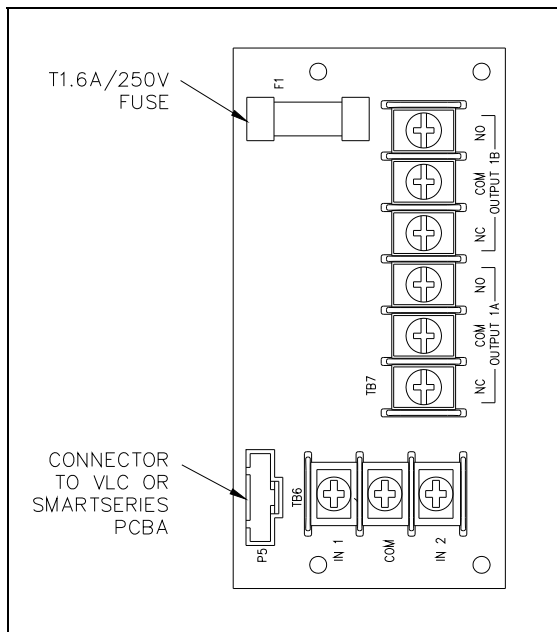
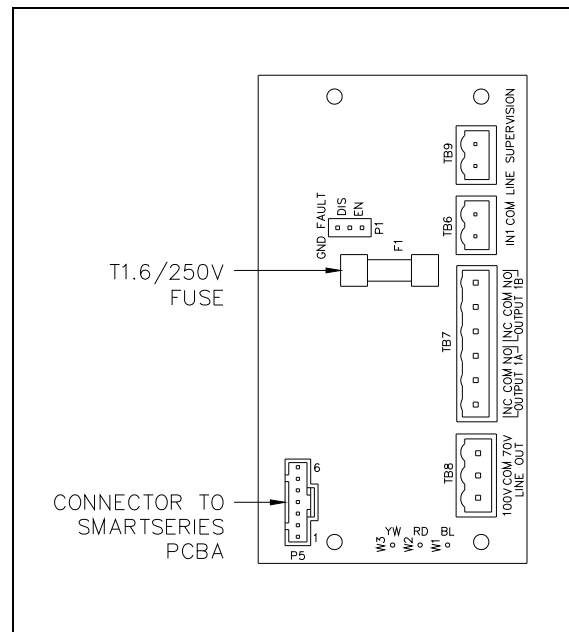

Figure 11. No. 69627 Series RTU PCBA
Figure 12. No. 69628 Series RTU & SmartSeries® 70V/100V Speaker Line Monitor PCBA
The No. 69627 RTU (Remote Terminal Unit) PCBA (see Figure 11) adds two remotely controlled dry relay contact outputs to an ICS Page/Party® station equipped with either a VLC PCBA or a SmartSeries® PCBA in conjunction with an ADVANCE head end. Two supervised inputs are also available when installed with the SmartSeries® PCBA in conjunction with an ADVANCE head end.
The No. 69628 RTU and SmartSeries® 70V/100V Speaker Line Monitor PCBA (see Figure 12) adds a single remotely controlled dry relay contact or a single supervised input to an ICS Page/Party® station equipped with a SmartSeries® PCBA in conjunction with an ADVANCE head end.
5. Install the provided 6-conductor harness from P5 on the SmartSeries® or VLC PCBA to P5 (see Figure 11 or Figure 12) on the RTU PCBA.